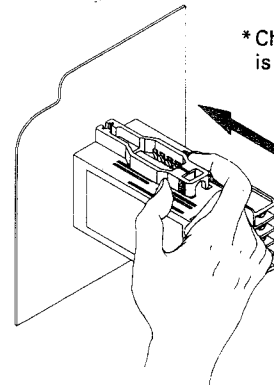

Fig. 2
- ④ Push the mounting bracket in the arrow direction. [Fig. 2]
- ⑤ Install a mounting bracket also at the bottom of the case in the same way as ③ and ④ above.